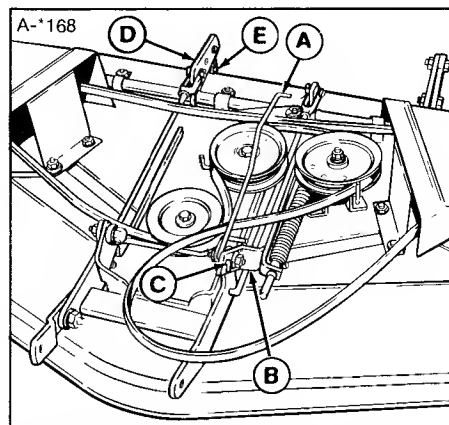

Figure 1. PTO Rod Connection (42" mower shown)
The lift chain (E, figure 1) should be connected to the rear hole in lift arm (D) unless optional large lift lever (B, figure 8) is used to raise mower. With large lift lever, connect chain in forward hole.
2. Insert the end of the PTO rod (A, figure 1) from the right-hand side and work the "S" bend (C) around until rod appears as in figure 1.